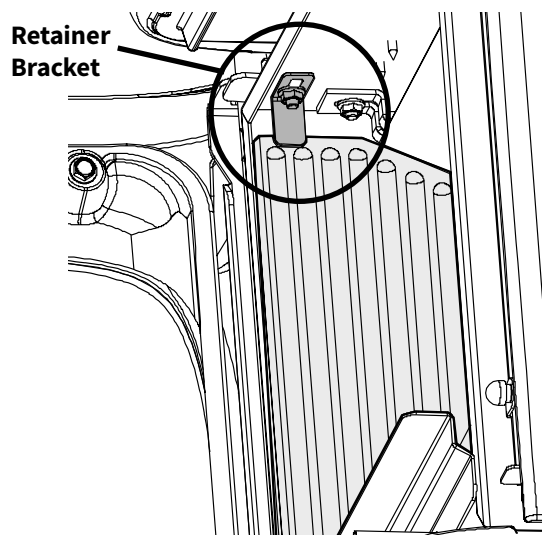

Figure 11.2. Firebox panels installation.
3. Turn the bracket head back in against the panel and tighten the nut snug. See fig. 11.2.